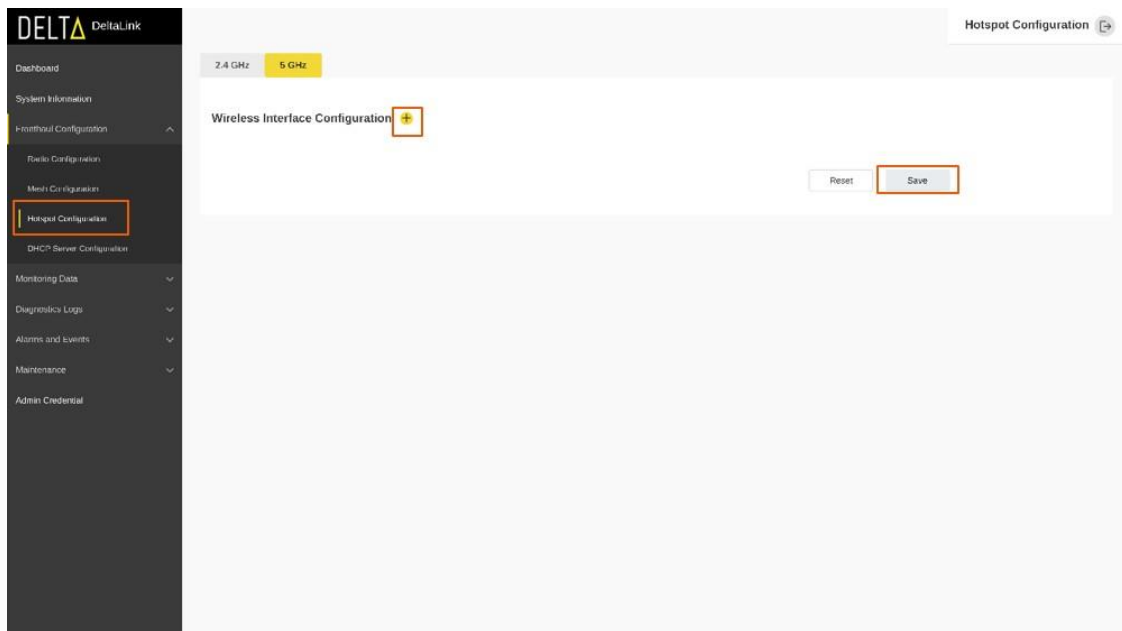
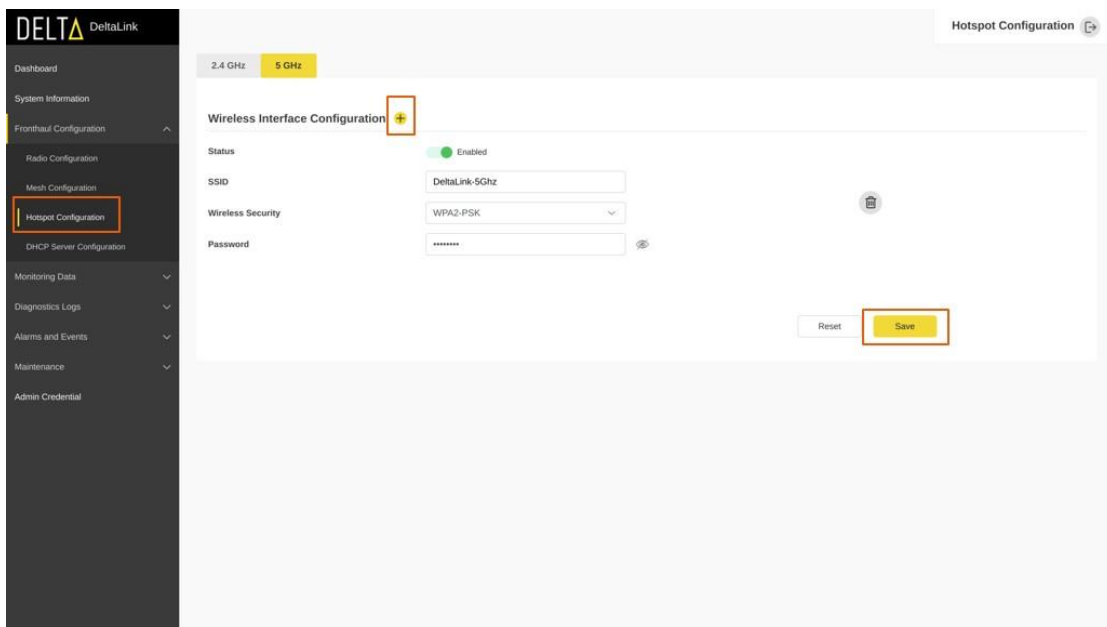

Figure 37 Hotspot Configuration 5 GHz - 1
Figure 38 Hotspot Configuration 5 GHz - 2
- f) To configure 5GHz SSID connections, select the "5 GHz" tab as shown in the Figure 37 and Figure 38 below.